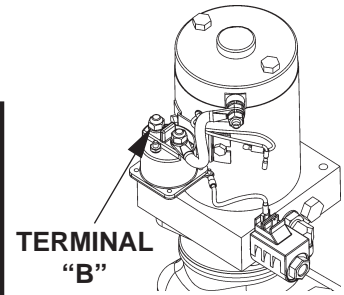

FIG. 77-1
1. Use voltmeter to verify that power is being supplied to Solenoid Terminal "B". Recharge the battery if voltmeter indicates less than 12.6 Volts (FIG. 77-1).